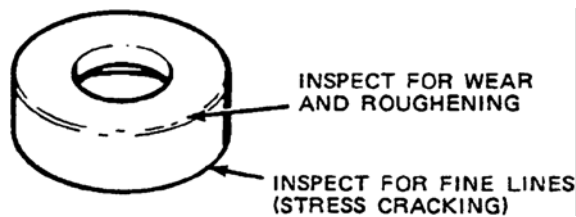

Figure 3-2. Tube Plug Cover Inspection (Optional Multipiece Sealing Assembly)
- inspect the tube plug covers as shown in Figure 3-2;